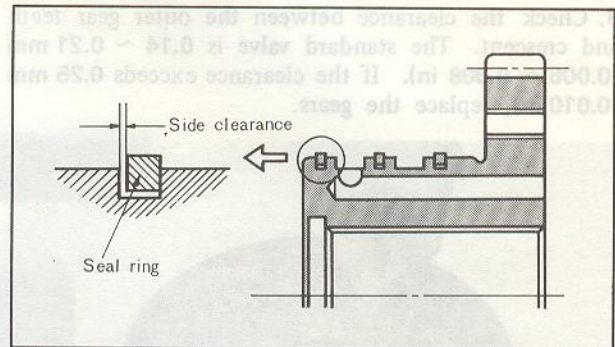

Fig. 7B-43 Clearance of oil seal ring
3. Check the side clearance between the sealing and groove as shown in Fig. 7B-43. The standard clearance is $0.04 \sim 0.16$ mm ($0.002 \sim 0.006$ in). When disassembling the seal ring, squeeze it up so that its joint will rise above the groove, and disconnect the joint.